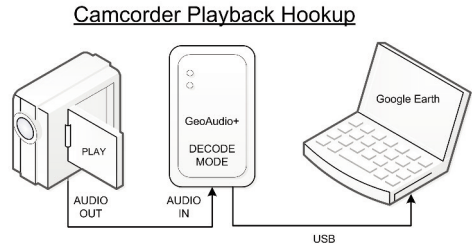

Figure 6.0 – Camcorder Playback Hookup
- Option #2 (see Figure 6.0) - use the supplied 6' 3.5 mm audio cable and 6' USB A-Male to Mini-B cable to connect the camcorder, GeoAudio+, and the user's PC.